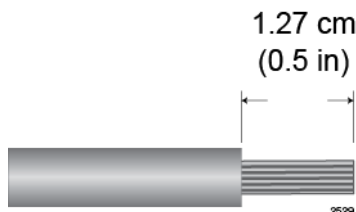

Figure 121. Stripping the Stranded Grounding Wire
1. Prepare an adequate length of stranded 10 AWG grounding wire by stripping it as shown in Figure 121.